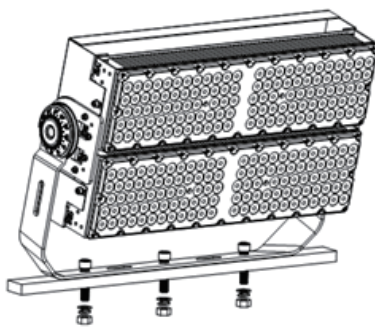

Figure 2. Install the screws, nuts, flat washers and spring washers
- Insert the connected wires into the lamp pole, then align the LED high mast lamp with the hole and put it on the lamp pole, put on the screws, flat washers, spring washers and nuts, tighten the screws with an Allen wrench and an open-end wrench, and finally wrap the two safety ropes several times and buckle them, as shown in Figures 2, 3, and 4.